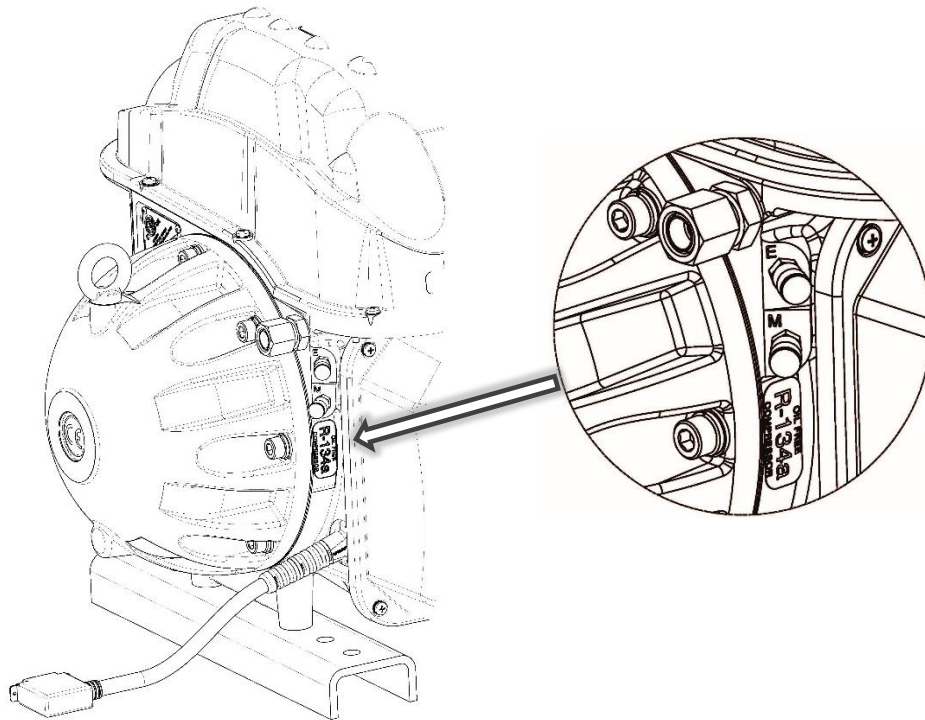

Figure 1 – Sticker Location
1. Locate the existing refrigerant sticker. Refer to Figure 1.
3. Adhere it to the same location as the one that was previously removed. Be sure that it is in the same orientation as the one in Figure 1.